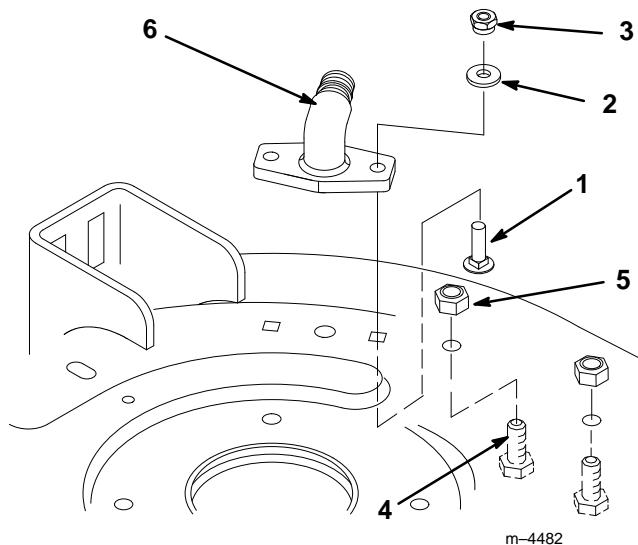

Figure 34
2. Remove the cover plate (Fig. 33) and reinstall the washout port (if previously removed when the vac-bagger was installed) (Fig. 34).
3. For safety, install (2) 3/8 x 3/4" (19 mm) bolts and (2) 3/8" locknuts, furnished with the vac-bagger, in the open holes on the mower deck where the counterweight was mounted. (Fig. 34).